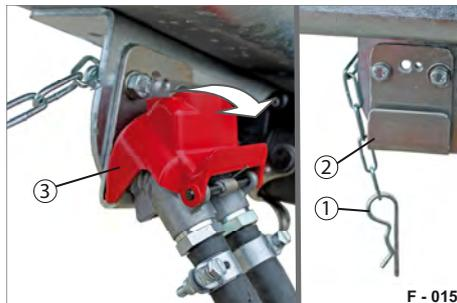

Fig. 21 Duo-Matic on park console
- ▶ Pull the spring pin (Fig. 21/1) out of the park console (Fig. 21/2).
- ▶ Press off the end cap (Fig. 21/3) and remove the Duo-Matic coupling from the park console.